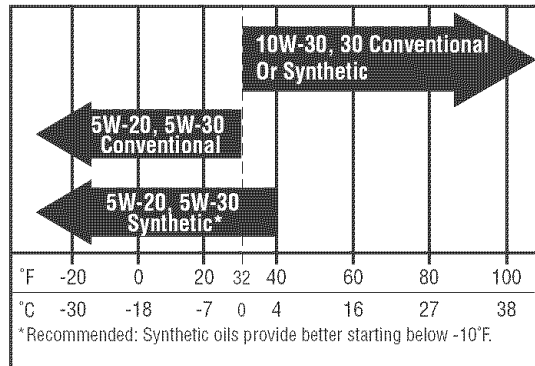
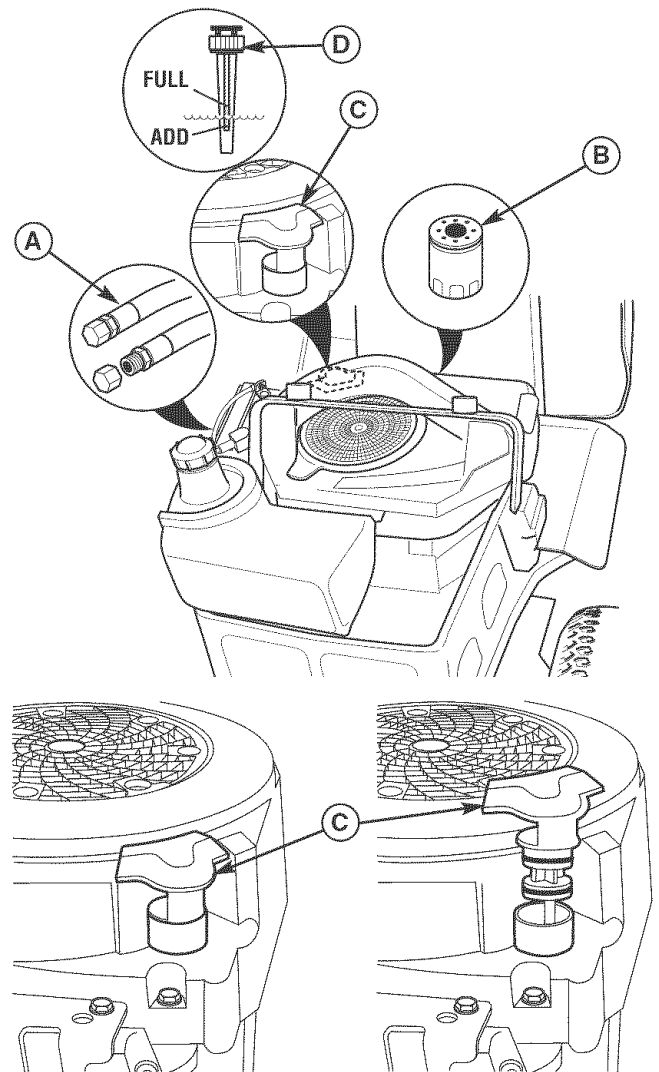

Figure 26. Recommended Engine Oil - Kohler Models
Figure 27. Oil Change - Kohler Models
2. Clean the area around the dip stick (C, Figure 27).
3. Remove the dip stick (C) and clean it with a paper towel.
5. Remove the dip stick and read the oil level. The oil level should be between the "F" and "L" marks (D). If not, add oil according to the oil recommendations chart (Figure 26).
1. Clean the area around the dip stick (C, Figure 27) and oil drain (A).
2. Remove the oil drain plug (A) and dip stick (C). Allow ample time for complete drainage.
3. Remove the oil filter (B). Discard the filter.
7. Reinstall the oil drain plug (A) and route the oil drain hose along side the engine.